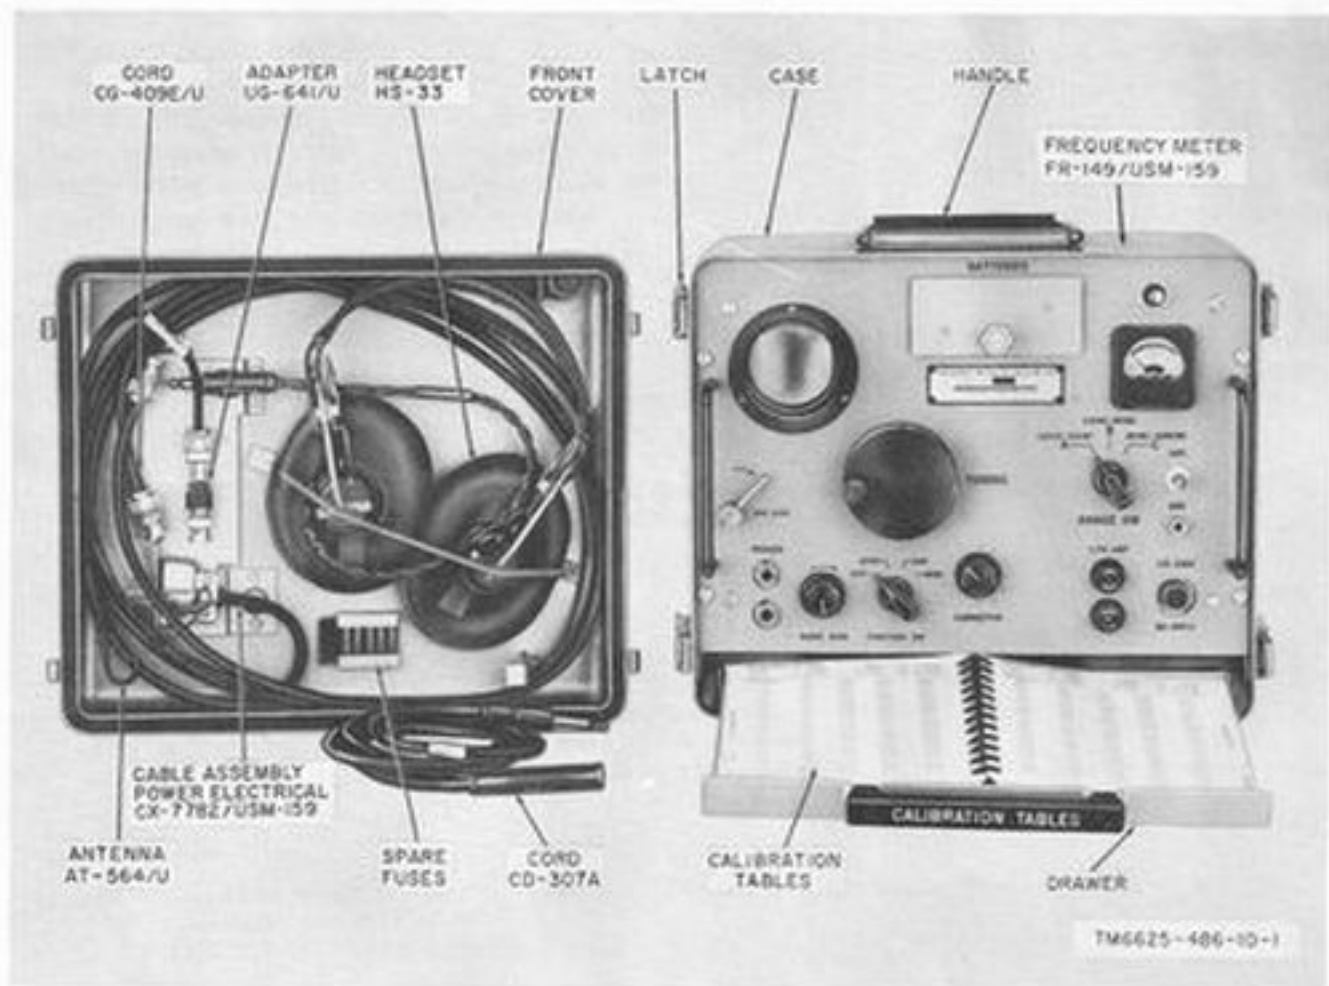

Figure 1. Frequency Meter AN/USM-159.
This manual describes Frequency Meter AN/USM-159 (fig. 1) and covers its installation, operation, and operator's maintenance. It includes operation under usual conditions, cleaning and inspection of the equipment, and replacement of parts available to first echelon maintenance.
Frequency Meter AN/USM-159 (fig. 1) is a precision instrument used to measure radio-frequencies (rf) in the range from 125 kilocycles (kc) to 1,000 megacycles (mc). It can also be used as a signal generator to provide modulated or unmodulated signals for testing and calibrating radio equipment. A system of checkpoints is provided to check the calibration of the instrument throughout its operating range.
5. Components of Frequency Meter AN/USM-159 (fig. 1)
7. Description (fig. 1)